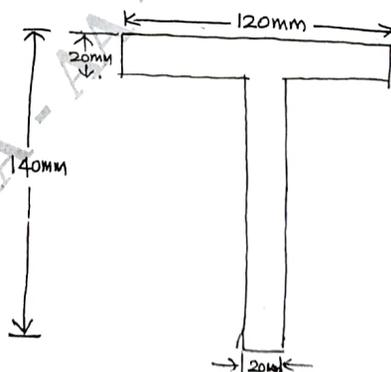

Fig. Q5 (c)
c. The T section in Fig. Q5 (c) is used as a simply supported beam over a span of 4 mts. It carries a udl of 8 kN/mt over its entire span. Calculate the maximum tensile and compressive stresses occurring in the section. (10 Marks)
- b. A simply supported beam carries a uDL of 50 kN/mt over the entire span of 6 mts length. The cross section is shown in Fig. Q5 (c). Determine the maximum shear stresses and sketch the shear stress across the cross section. (10 Marks)